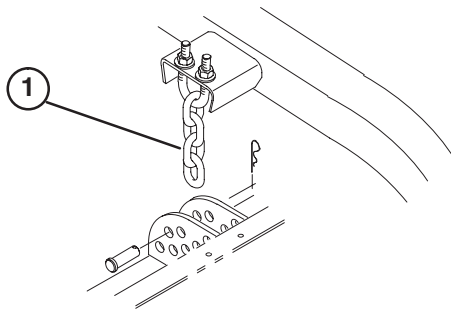

Figure 9
4. Remove hairpin cotter and clevis pin securing height-of-cut chains to rear of deck (Fig. 9).